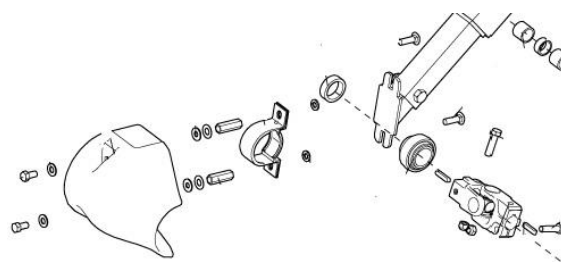

Figure 217
6. With the cover removed and the augers supported the pin that retains the left-hand auger to the center auger can be removed. Figure 217